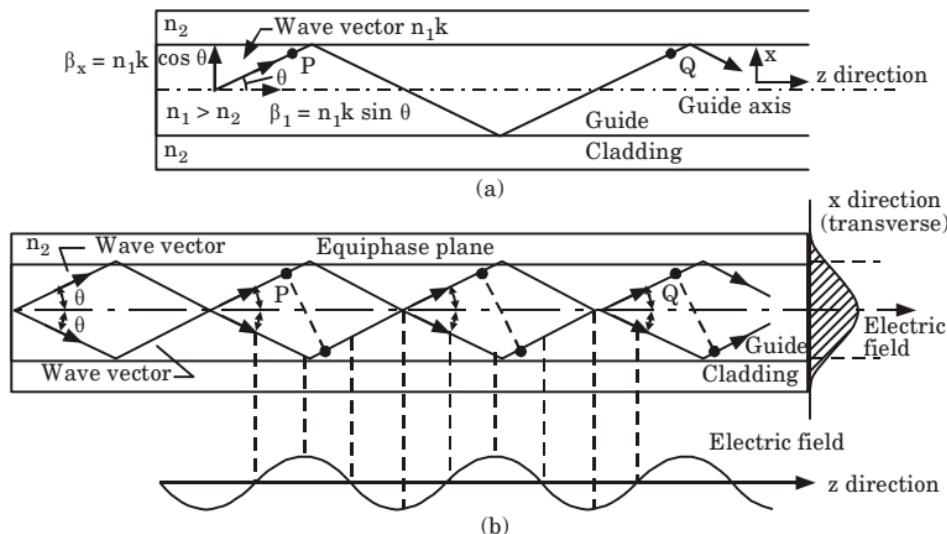

Fig. 4. The formation of a mode in a planar dielectric guide.
3. A plane monochromatic wave propagating in the direction of the ray path within the guide (Fig. 4(a)).
5. When θ is the angle between the wave propagation vector or the equivalent ray and the guide axis, the plane wave can be resolved into two component plane waves propagating in the z and x directions, as shown in Fig. 4.
10. This situation is illustrated in Fig. 4(b), the optical wave is effectively confined within the guide and the electric field distribution in the x direction does not change as the wave propagates in the z direction.
11. The sinusoidally varying electric field in the z direction is also shown in Fig. 4(b).
13. A specific mode is obtained only when the angle between the propagation vectors or the rays and the interface have a particular value, as indicated in Fig. 4(b).
14. In effect, eq. (1) and eq. (2) define a group or congruence of rays which in the case described represents the lowest order mode.